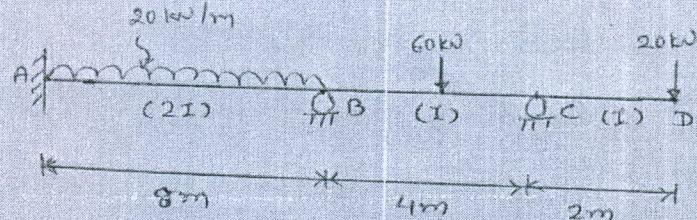

Figure 8
- (A) Analyse the beam ABCD shown in fig.8 by moment distribution method. [5]